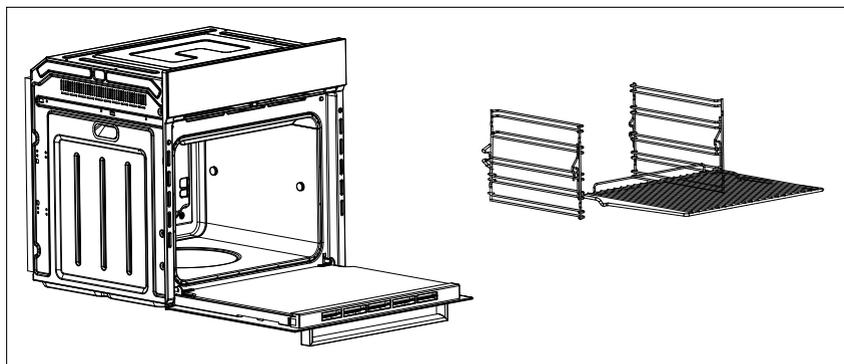

Figure 2.
- Remove the side racks (see section below and Fig.2)
- Finally, refit the side racks (See below and Fig.2)